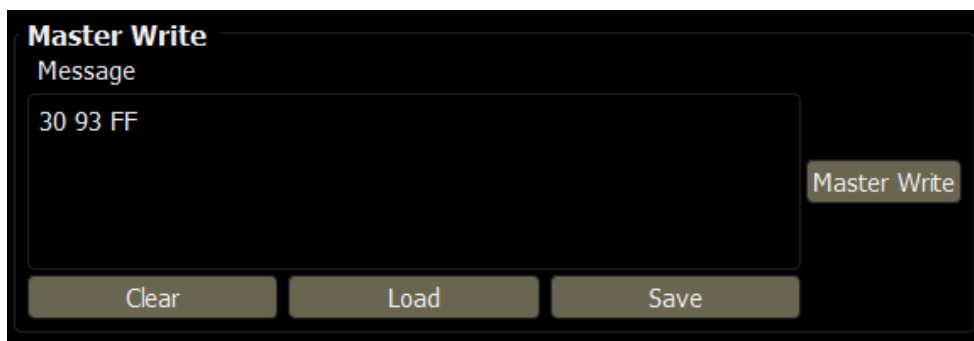

Figure 6.15. I²C Master Write Procedure
To test the I²C interface, data can be written to the register 0x3093 of the camera, as shown in Figure 6.15. Additional register information can be obtained through the IMX258-0AQH5 camera data sheet available through Sony. An example of how to execute this transaction is discussed in the next section.
5. Enter the data and address into the message box – two bytes of address and one byte of data as shown in Figure 6.15. For example, to write address 0x3093 with 0xFF data, then enter “**30 93 FF**” into the message box.